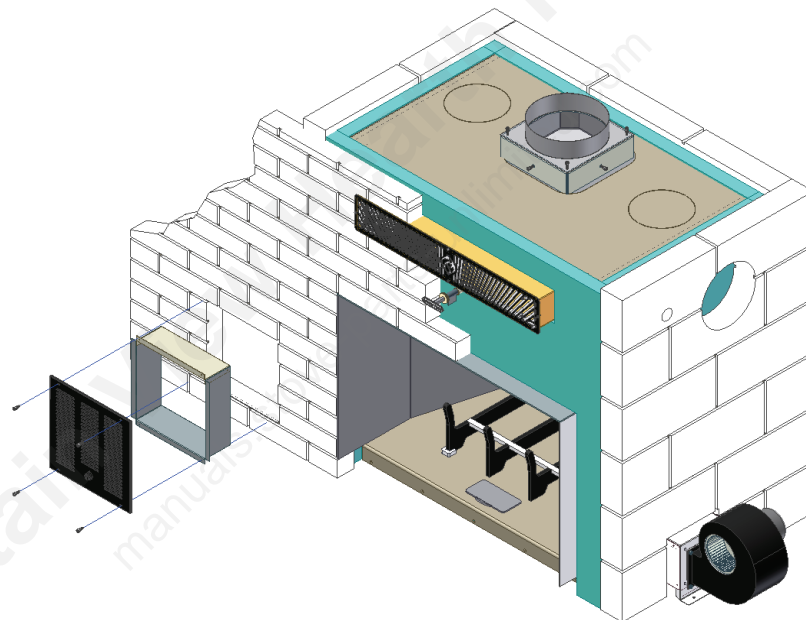
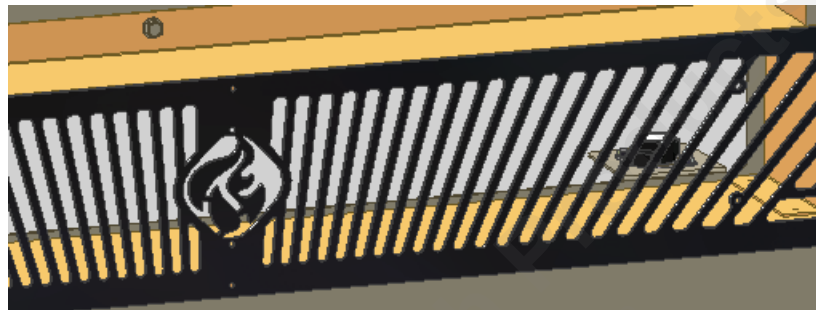

FIGURE 8B: AIR INTAKE GRILL INSTALLATION
FIGURE 12: THERMAL SNAP DISK LOCATION
Blowers add to the efficiency of the Smart Fireplace Furnace by moving room air across the heat exchanger fins built into the Smart Fireplace Furnace. This air is heated and then returned to the room or home duct system to provide more uniform heating throughout the house. Country Flame provides two grille frames that are to be framed in by the mason when finishing the front face of the Smart Fireplace Furnace. FIGURE 8A shows how a blower is mounted to the Smart Fireplace. Figure 8B shows the proper installation of the air intake grills with variable speed controls attached. Follow the steps listed below to install each blower. Refer to FIGURE 12 for the electrical schematic of the blower system.
3. Once Step 1 and 2 are complete, the air intake grilles and grille frames can be installed when the mason bricks the front of the fireplace. Refer to FIGURE 8B to see the recommended procedure for proper installation of the grille frames. Ensure that the electrician properly wires the variable speed control provided on the air grilles to the blowers.
FIGURE 12 shows the location of the thermal snap disk on the right side behind the front grille. Service to this component should only be accomplished by a qualified technician. This snap disk comes pre-wired from the factory. Once connected to the main power circuit, this snap disk will automatically turn the blower system on and off as the Smart Fireplace Furnace reaches either the appropriate hot or cold temperature.